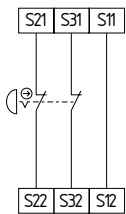

Fig. 6
**Dual-channel emergency stop circuit with command devices to EN ISO 13850 and EN 60947-5-5 (see Fig. 6)**